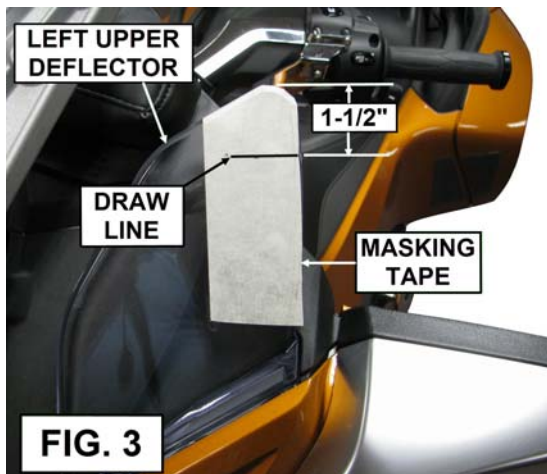

FIG. 3
4. PLACE A PIECE OF MASKING TAPE ABOUT 4 INCHES LONG ON THE FRONT OF THE LEFT UPPER OEM WIND DEFLECTOR AS SHOWN IN FIG. 3.
5. USING A PENCIL OR PEN MAKE A LINE 1-1/2" DOWN FROM THE TOP OF THE OEM WIND DEFLECTOR AS SHOWN IN FIG. 3.